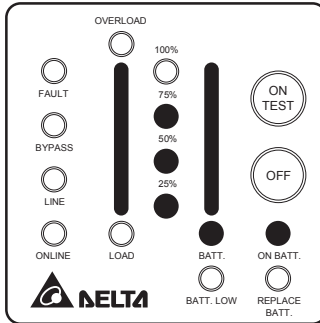

Fig 4-4 On-Battery Mode
- **ON-BATTERY mode:** When the UPS is in [ON-BATTERY mode], the on- battery LED will light on, buzzer beep half second every 2 seconds and then the UPS will start supplying power to load through batteries. Shown as fig 4-4.